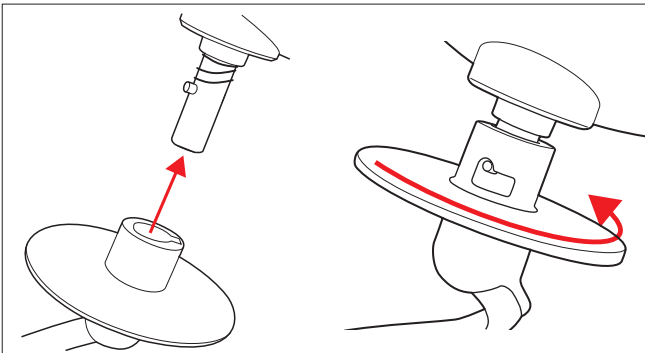

Fig. 11 – Attaching and locking the stirring attachment
2. Insert the desired stirring attachment (dough hook, flat beater or whisk) into the processor as shown (see Fig. 11).